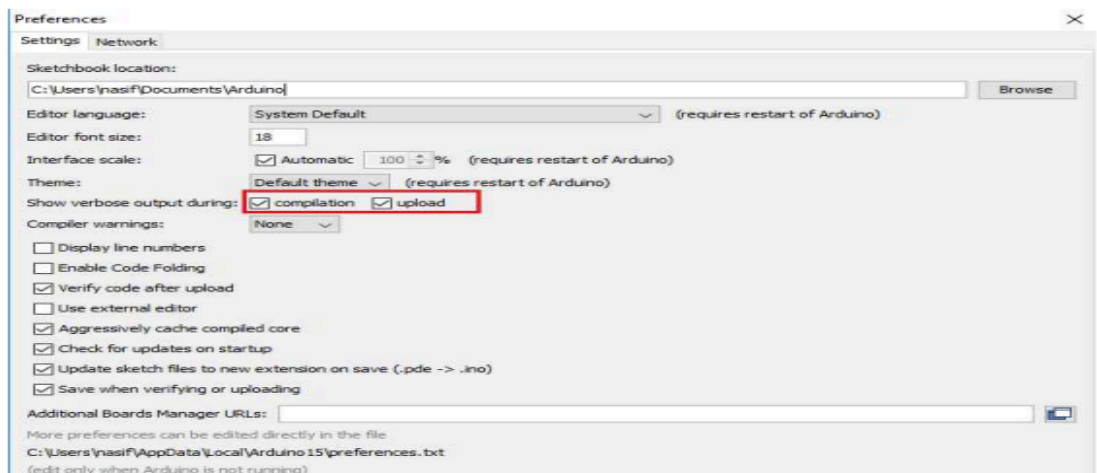

Fig 8: Compilation and upload of code
Step 3: Make a Hex file as shown in figure 8.